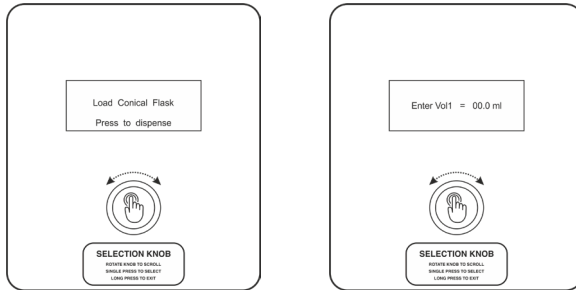

Fig. No. 24.1
• **ACID PUMP CALIBRATION** (Ref. Fig. No. 24.1)